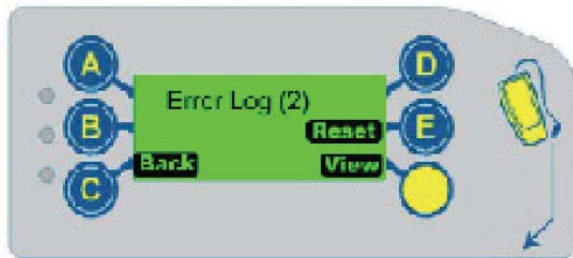

Fig.18
- Once the setup menu has been accessed, use the D button (highlighted "arrow") to scroll to the Error log screen. Press the yellow mode button (highlighted "Select") to access this feature. The user will be presented the option to view or reset the errors, see figure 18 on page 12.